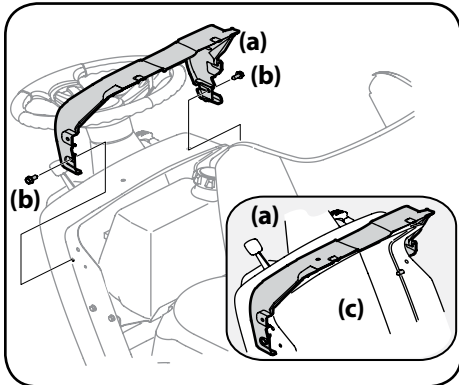

Figure 2-7
- If the dash shroud (a) was shipped loose, the hardware for attaching the dash shroud (a) is shipped installed in the dash (c). Remove the two bolts (b) from the dash (c). See Figure 2-7.
- Mount the dash shroud (a) and align the mounting holes. See Figure 2-7.
- Secure the dash shroud (a) to the dash (c) with the bolts (b) removed in Step 1. See Figure 2-7.